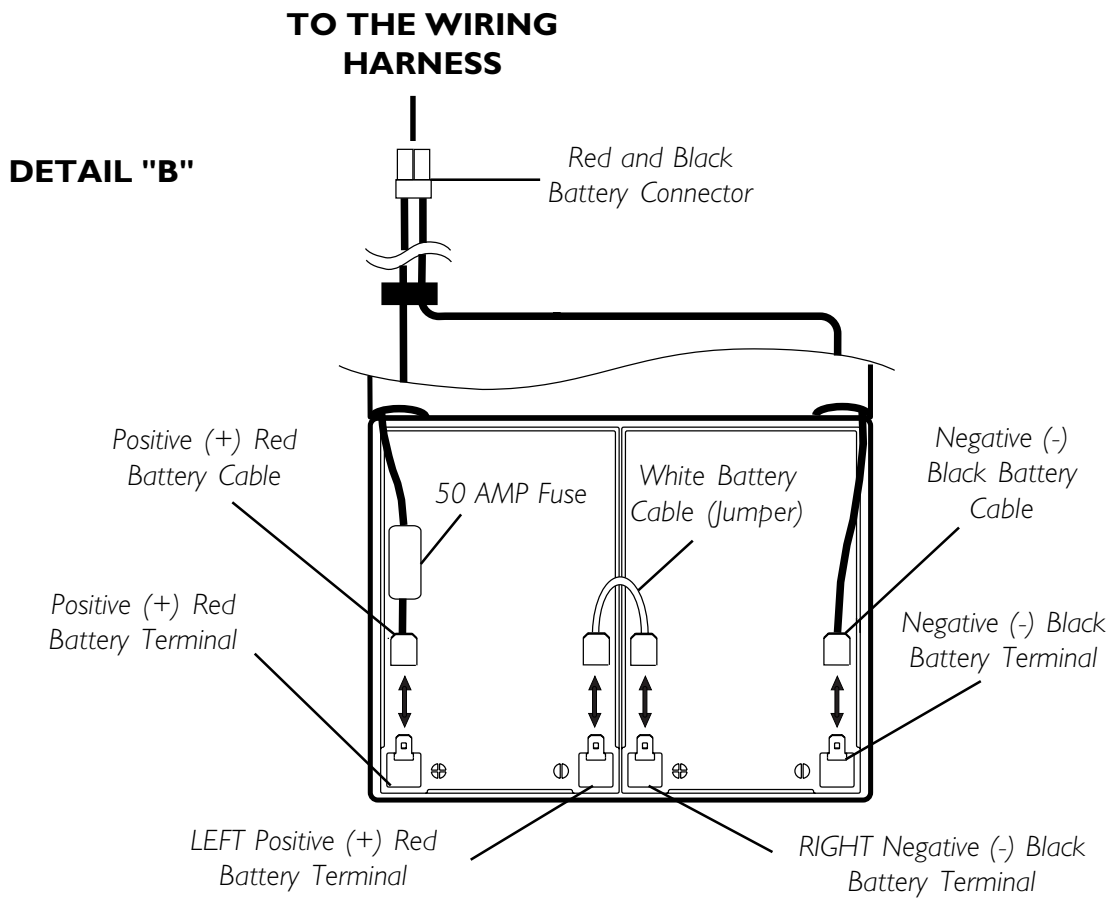

FIGURE 2- REPLACING THE BATTERIES
REPLACING THE BATTERIES (FIGURE 2)
5. Disconnect the red and black battery connector from the wiring harness assembly (DETAIL "A" of FIGURE 2).
6. Disconnect the wiring harness from the batteries by holding the connectors and pulling them in the following order (DETAIL "B" of FIGURE 2):
7. Remove the EXISTING batteries from battery tray by lifting the batteries out in the direction shown in DETAIL "A" of FIGURE 2.
8. Install two (2) NEW batteries into the battery tray.
9. Connect the wiring harness to the NEW batteries in the following order (DETAIL "B" of FIGURE 2):
11. Secure the batteries in the battery tray using the battery strap (DETAIL "A" of FIGURE 2).